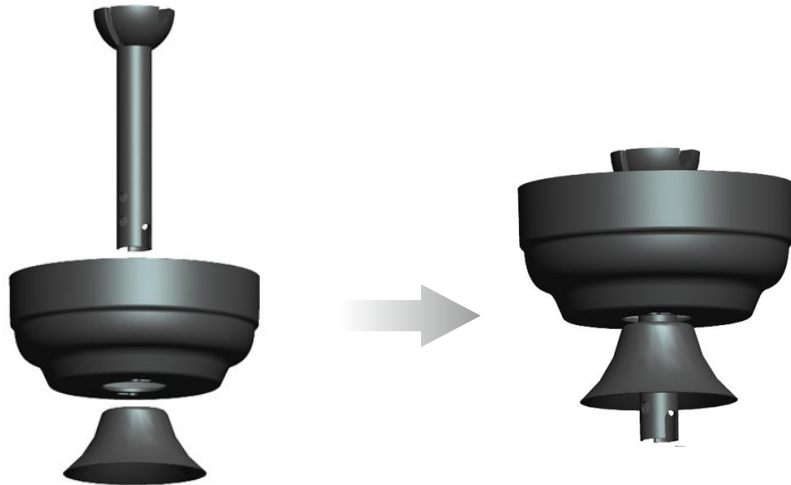

Fig 4.1
4.1 Assemble downrod as shown in Fig 4.1.